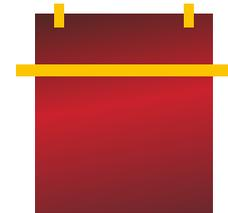

Figure02
- › Apply a strip of masking tape or magnets across the upper section of the graphic in order to create a horizontal hinge; preferably on a flat part of the surface. (FIG. 02)